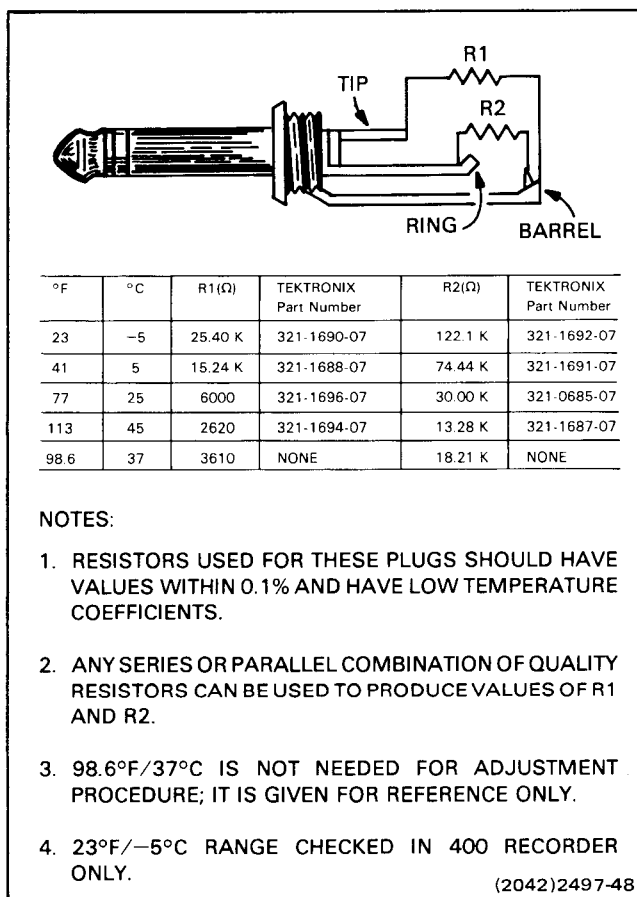

Figure 5-2. Temperature-sensor substitution plugs.
- Insert 113°F/45°C temperature sensor substitution plug (Fig. 5-2) into TEMPERATURE SENSOR INPUT (A, 413) jack on monitor rear panel.